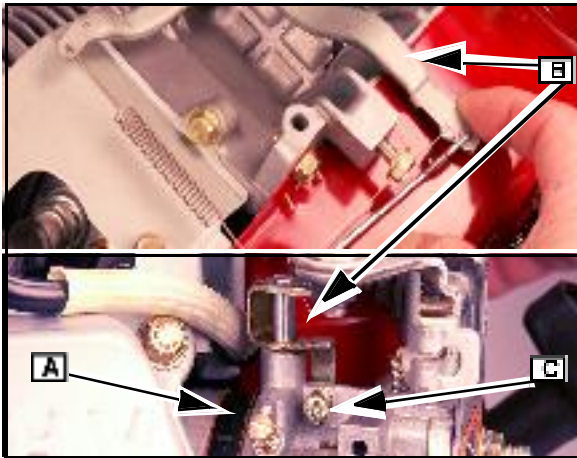

Fig. 12
1. Turn the idle mixture screw (**A**) Fig. 12) in until you feel it *just* make contact with the seat.